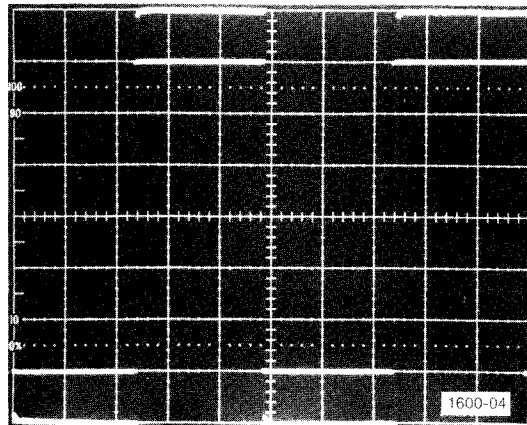

Fig. 2-3. Typical DPO display during high-frequency compensation check.
i. CHECK - The two waveforms displayed at the Rep Rates and Sweep Rates marked A in Table 2-4. Typical display is shown in Fig. 2-3. Check for cross talk -- ripple and discontinuities in the display caused when the DPO chops between the real-time and stored waveforms. Cross talk is typically less than 0.08 division. Aberrations on the real-time pulse front corner must meet the limits given in CHECK steps above.